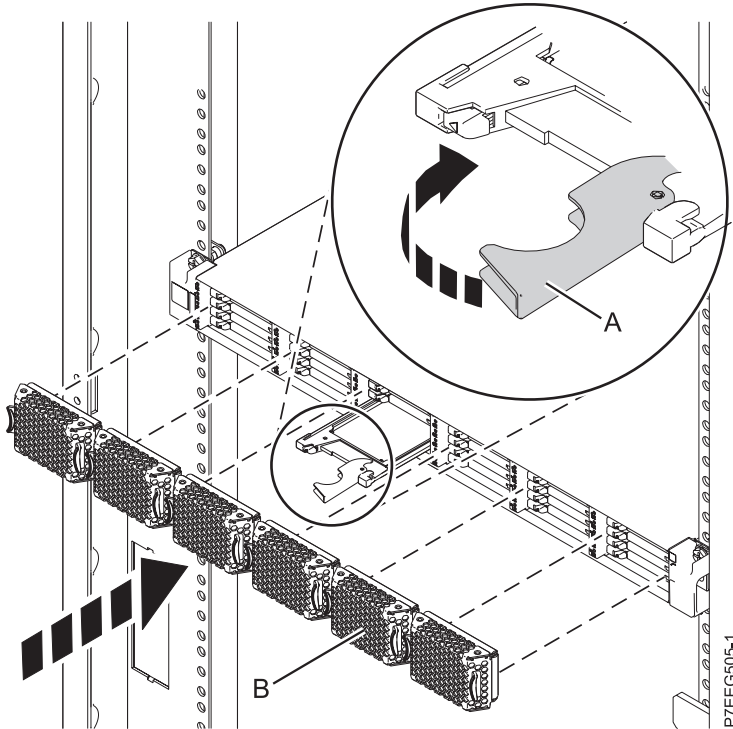

Figure 43. Replacing a solid-state drive in the 5888 PCIe storage enclosure.
4. When the solid-state drive identify LED turns on solid, slide the solid-state drive all the way into the 5888 PCIe storage enclosure until it is fully seated. Then rotate the handle (A) to the locked position. See Figure 43 on page 66.
6. Install the bezel (B).